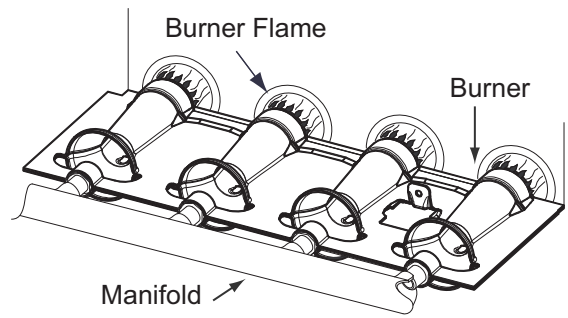

Fig. 12 – Burner Flame
13. When correct input is obtained, main burner flame should be clear blue, almost transparent (See Fig. 12).
NOTE: When correct input is obtained, main burner flame should be clear blue, almost transparent. (See Fig. 12).